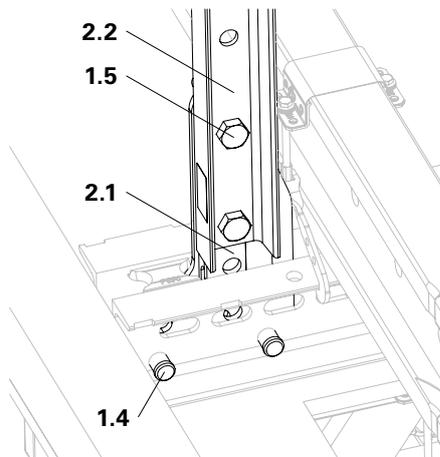

Fig. A3.03a
1. Mount Corner Connector SRU VARIOKIT (2.1) onto the Steel Waler SRU U120 (1.1) using 2x Fitting Pins Ø 21 mm (1.4), and secure with cotter pins 4/1, galv. (Fig. A3.03a)
2. Mount Guardrail Post RCS/SRU 184 (2.2) onto the Corner Connector VARIOKIT (2.1) using 2x Bolts ISO 4014 M20 x 100 and Nuts ISO 4032 M20. (Fig. A3.03a)